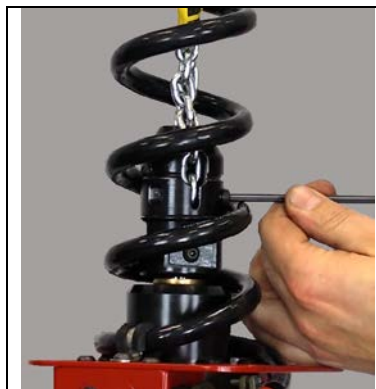

Figure 4-16
Step 30. Next, the last link of the SDS chain is installed into the bottom slot of the chain nest. The chain must be kept parallel with no twists. The bolt is installed through the last link of the SDS and into the chain nest. (Refer to Figure 4-16)